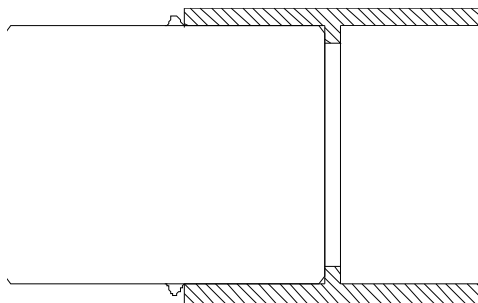

FIGURE 2: Proper Joint with Bead Formed
- 17) A properly made joint will show a bead around its perimeter. See Figure 2 for illustration of completed joint. Any gaps may indicate insufficient use of solvent cement. Once pipe has been completely inserted into fitting, remove excess cement, including the bead formed by the joint.